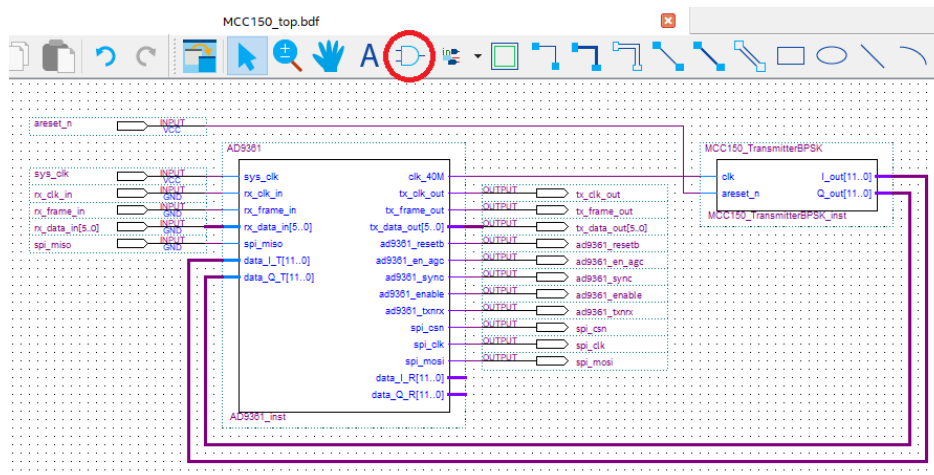

Figure 13: The schematic editor with the Symbol Tool marked with a red circle
- Switch back to the **Hierarchy** view in the **Project Navigator** and double click on the top level design file, named `MCC150_top`. This should open a schematic view of the top level where you can see the input port on the left side and the output ports on the right side of the AD9361 controller module. Add your transmitter design to the schematic by clicking the **Symbol Tool** button, marked with a red circle in Fig. 13, select the `MCC150_TransmitterBPSK` symbol in the **Project** directory and click **OK**. Place the symbol in a suitable place in the schematic by left-clicking and stop placing using the **Esc** key. Connect the AD9361 controller and the transmitter by wires as shown in Fig. 13. The wires are placed by click-and-drag, in a similar way as in Simulink. Finalize the schematic by renaming the `MCC150_TransmitterBPSK` instance by double-clicking `inst` in the symbol. Use the name `MCC150_TransmitterBPSK_inst`. Save the schematic and close the schematic editor.